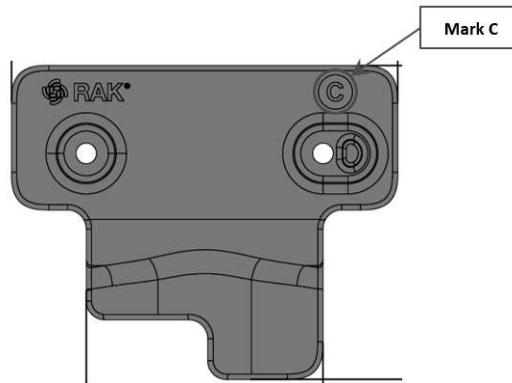

Figure 17: Mount accessory marked with the letter C
1. For horizontal pole mount overlap, use two (2) pieces of mount accessories, which has an indicated mark of the letter **C**, as shown in **Figure 17**.